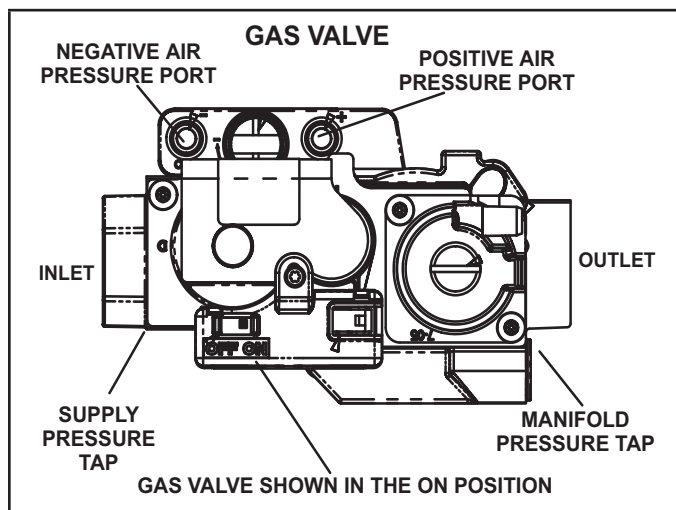

FIGURE 53
Gas Valve Operation (FIGURE 53)
- 6 - Move the gas valve switch to the OFF position. See FIGURE 53.
- 8 - Move gas valve switch to the ON position. See FIGURE 53. Do not force.